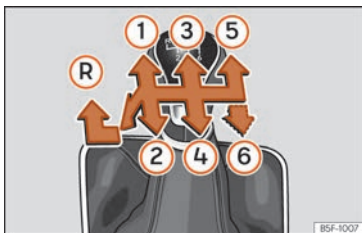

Fig. 55 Gear shift pattern of a 5 or 6-speed manual gearbox.
The position of the gears is indicated on the gearbox lever » **Fig. 55**.
» **Fig. 55 (R)**.